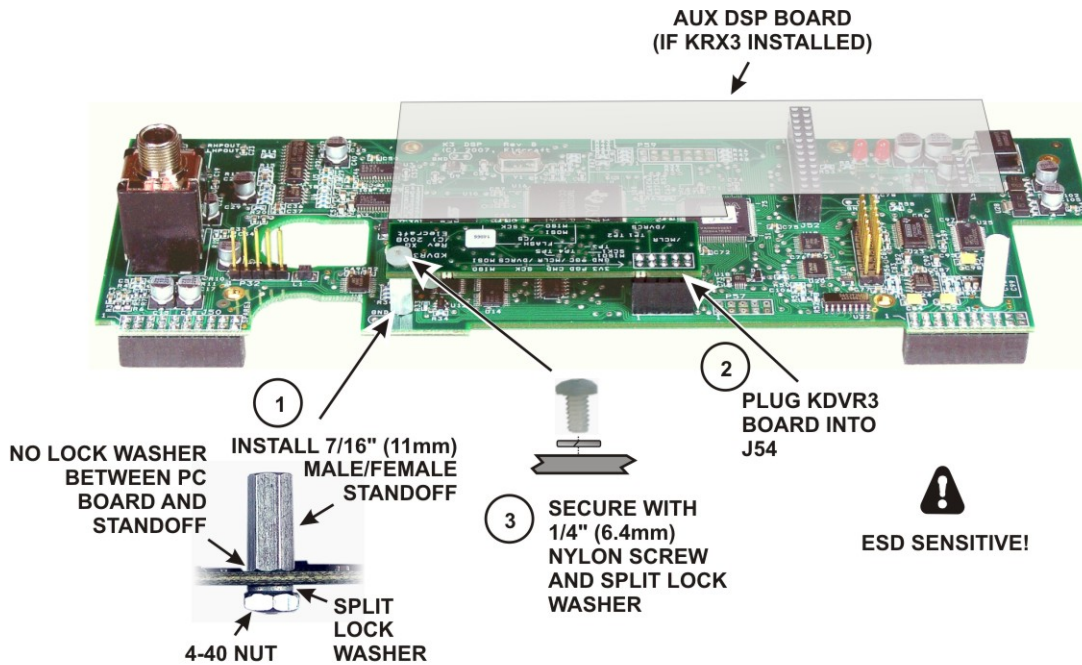

Figure 10. Installing the KDVR3 Board on the Main DSP Board.
□ Install the KDVR 3 board on the main DSP board as shown in Figure 10. Be sure you use the nylon screw. A metal screw here may short to the front panel board after reassembly. **Do not over tighten the nylon screw. It is easy to strip the threads. Look at the split in the lock washer and tighten the screw only until the washer is compressed flat.**